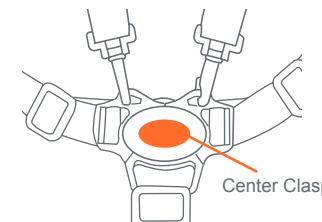

Fig. 14a
- 14)** • To release, push Button on Center Clasp, the two Harness Buckles will pop free (Fig. 14a).